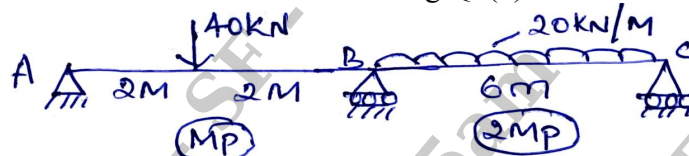

Fig.Q2(b)
- b. Calculate 'Mp' for the continuous beam shown in Fig.Q2(b). Take load factor 1.5.